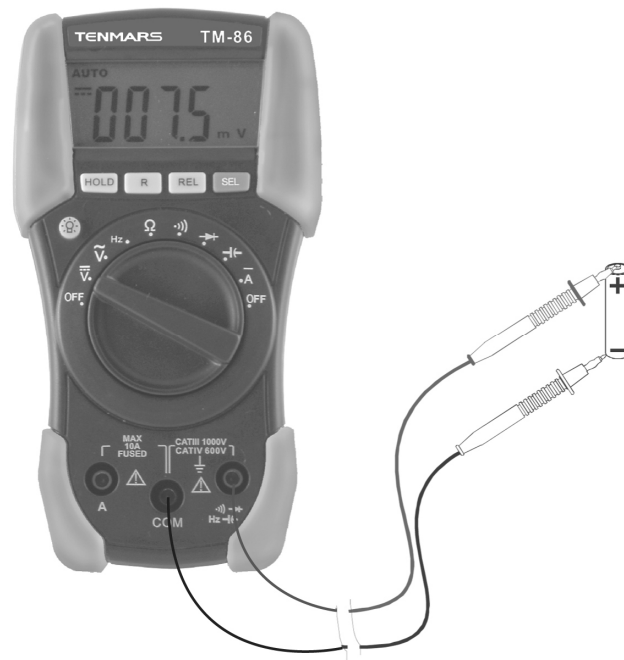

Fig. 2: Using the meter for DC Voltage measurement
3. Insert the test leads into the jacks, the red plug into **V $\overline{\text{—}}$** jack and black plug into **COM** jack (see Fig. 2).